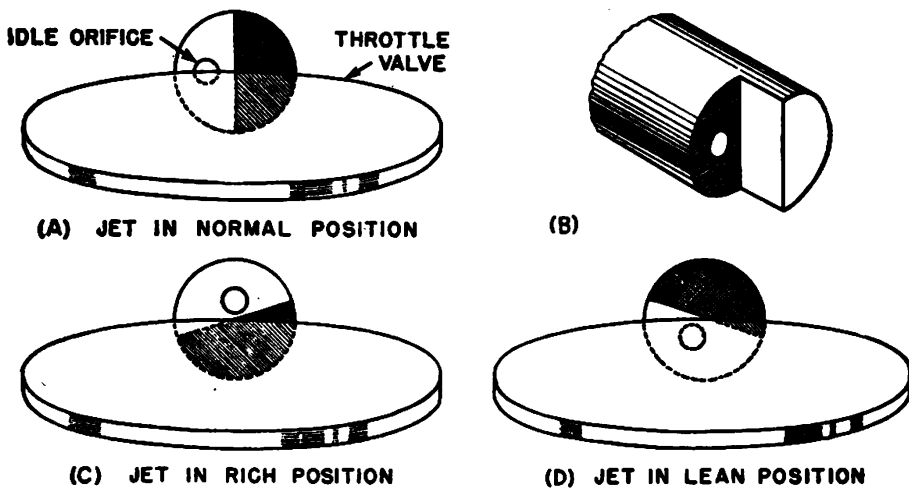

Figure 49.—Diagram showing action of idling device.
With the jet in its normal position, which is shown in the diagram, figure 49, view (A), half
As the throttle is opened the area of the opening above the throttle valve is increased, and that below the valve is decreased, which is the position shown in the diagram, figure 49, view (C). As the amount of air flowing past the partly opened throttle has increased, the greater amount of fuel taken in through the upper opening is sufficient to form a combustible mixture, such as is necessary for the increased speed of the engine. The size and shape of the idle bypass can be adjusted by regulating the exposure of the orifice by means
The mixture required for extremely low speeds is excessively rich, but as the idle speed is increased the mixture gradually is reduced to normal. The plug may be turned through a definite angle by means of the idle-control lever, which can be locked in different positions by a spring-loaded pin that fits into holes or notches in the quadrant. In this way the strength of the idle mixture may be controlled from the full-rich position shown in figure 49, view (C) to the full-lean position shown in view (D), since turning the plug regulates the upper and lower positions of the openings, and consequently controls the ratio of gas to air so as to obtain the proper mixture.